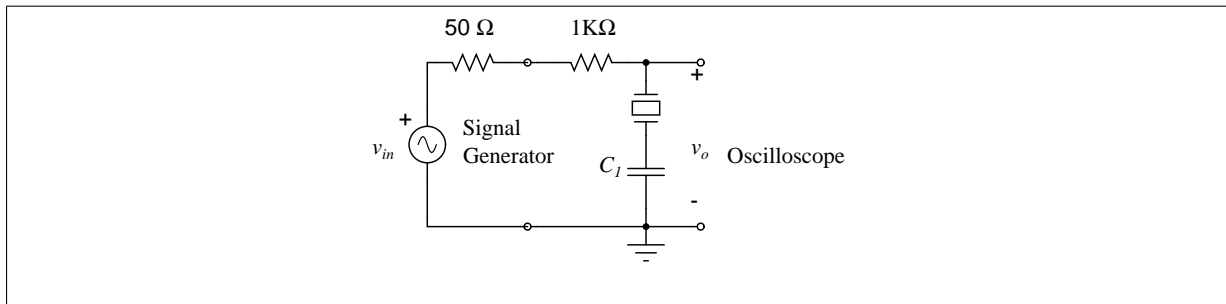

Figure 3: Quartz crystal measurement setup with a series capacitor.
3. Solder a $C_1=5.6$ pF capacitor in series with the crystal as shown in Fig. 3. Determine the resonance frequency, f_{s1} , of the new circuit within 10 Hz. Find the difference, δf , between the resonance frequencies with and without 5.6 pF capacitor in series. Note that the minimum voltage observed in this measurement is higher than that in the measurement without the capacitor, since the capacitor, C_1 , also has a finite series resistance of its own.